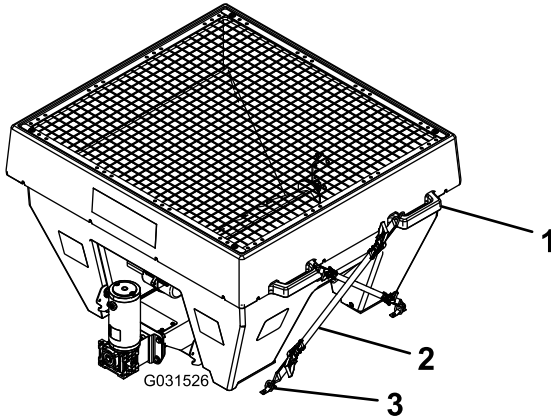

Figure 8
1. Connect the ratchet straps to the lift handles around the upper edge of the spreader (Figure 8).
2. Connect the free ends of the ratchet straps to the D-rings opposite to them on each side of the spreader (Figure 8).